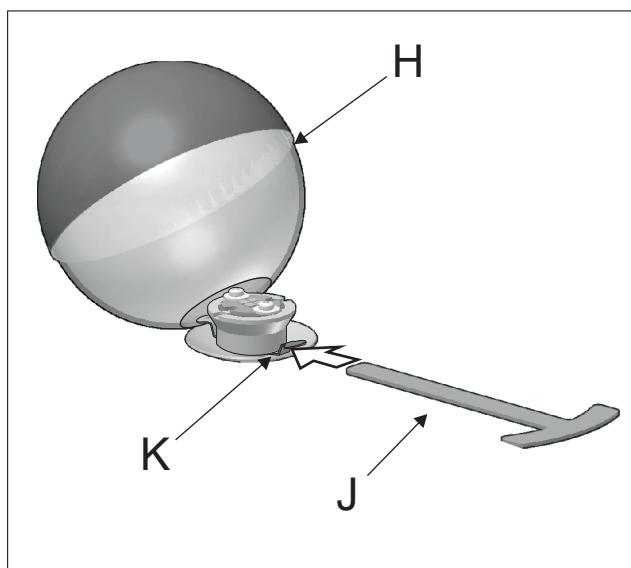

Figure 9a
- 9 - Hold the screen (H) with one hand. Simultaneously press the other extreme of the clip (K) with the supplied tool (J) with the other hand. Figure 9a.